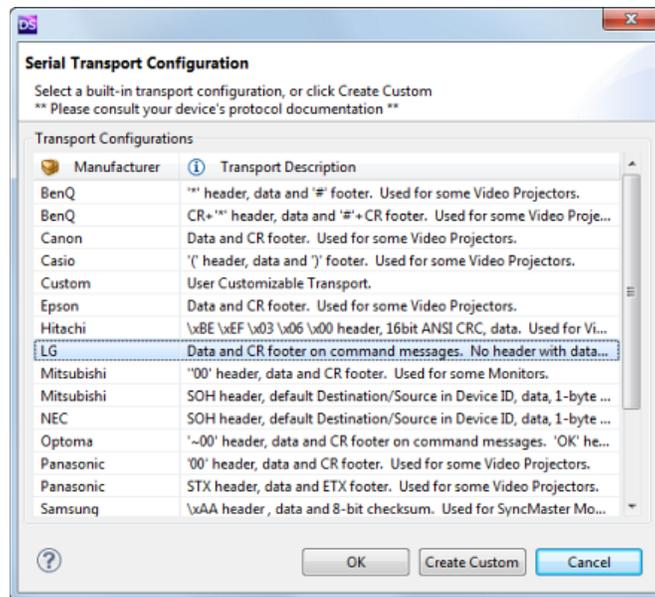

FIG. 35 Serial Transport Configuration dialog
2. This opens the *Serial Transport Configuration* dialog. Select a built-in transport from the list of available serial transport configurations, based on the Device Type and Manufacturer selected in the *Device Information* tab. Note that the Transport Description column provides details on each transport configuration (FIG. 35).